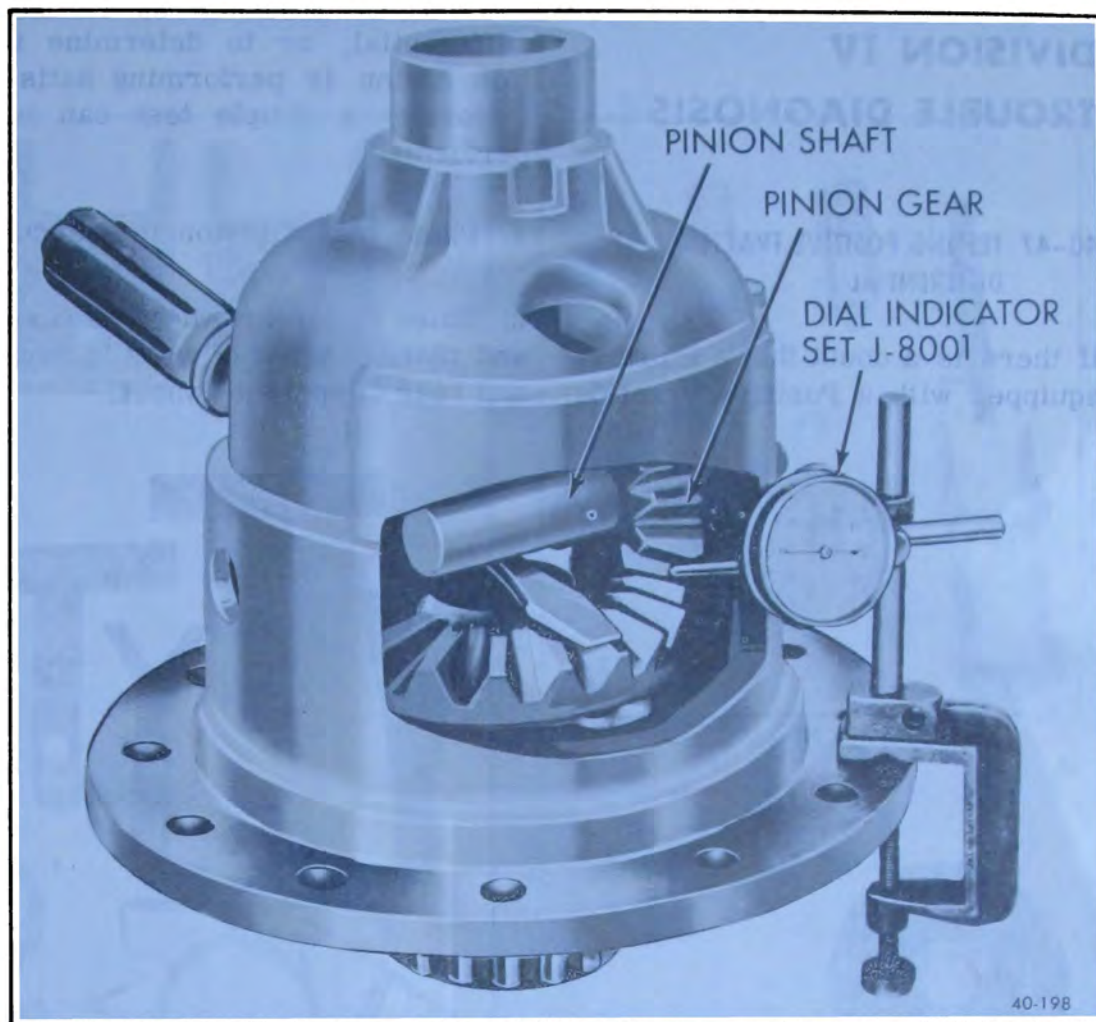

Figure 40-186—Checking Side Gear to Pinion Gear Backlash
- d. Install dial indicator with the contact button against the pinion gear. See Figure 40-186.